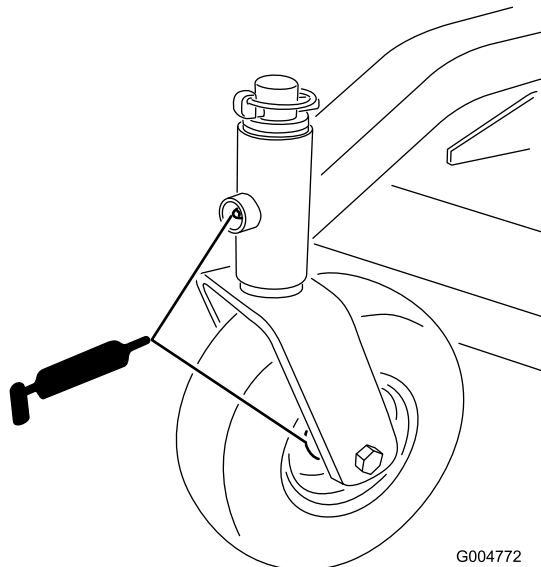

Figure 24
1. Lubricate the front caster wheel bearings and front pivots (Figure 24).
4. Remove rear wheel grease cap. Lubricate the rear wheel bearing (Figure 24).